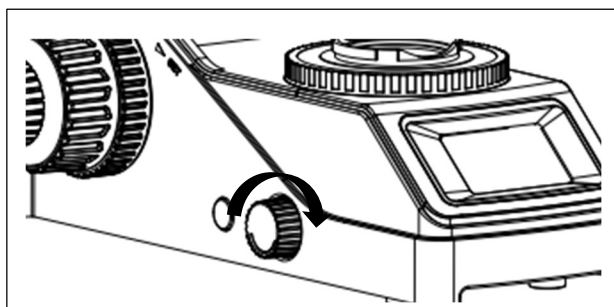
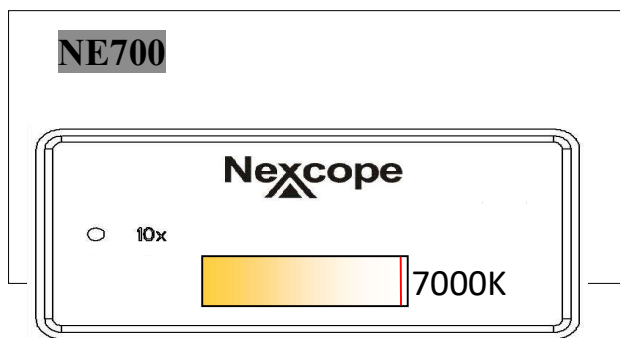
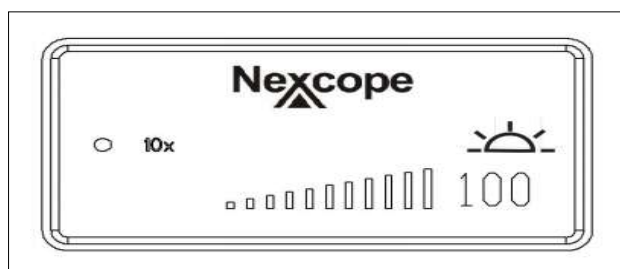

Fig.10
Fig.12.1
Fig.12.2
2. Color temperature/brightness adjustment switch: Select CCT through the knob, click the knob to enter the color temperature adjustment state, as shown in Figure 12.1. When rotating in the direction indicated by the arrow on the dimming handwheel in Figure 10, the color temperature decreases, and vice versa, the color temperature increases. The color temperature adjustment range 3000K~7000K.
When switching back to brightness adjustment, press and hold the knob for 3 seconds to enter the function setting interface, as shown in Figure 11.2. Rotate the knob to select On Down, and click the knob to enter the brightness adjustment state, as shown in Figure 12.2. When rotating in the direction indicated by the arrow on the dimming handwheel in Figure 10, the brightness decreases, and vice versa, the brightness increases.